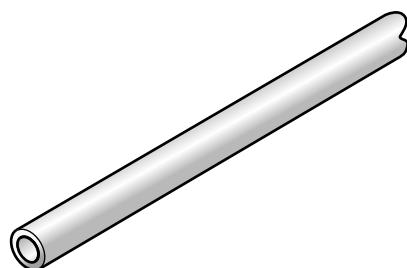

Fig. 6
- (a)** Fig. 6 shows part of a length of brass tube from which the five supports will be cut.